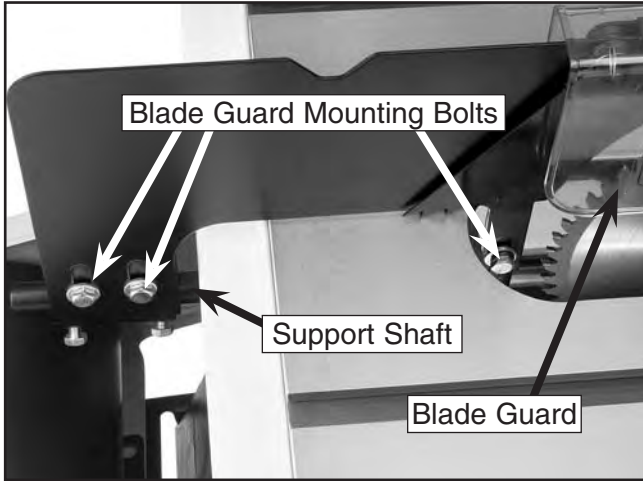

Figure 30. Blade guard components.
4. Slide the blade guard fingers onto the blade guard mounting bolts (**Figure 30**).